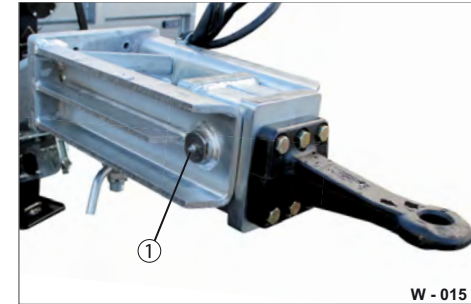

Fig. 18 Lubricating swivel axis
- ▶ Lubricate the swivel axis on the lubrication nipple (Fig. 18/1) with a grease gun until lubricant escapes.